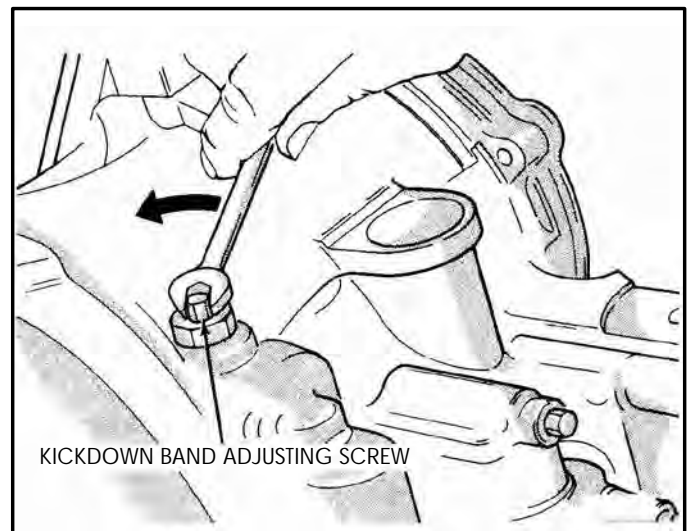

Figure 43
22. Loosen the kickdown band adjusting screw, as shown in Figure 43.